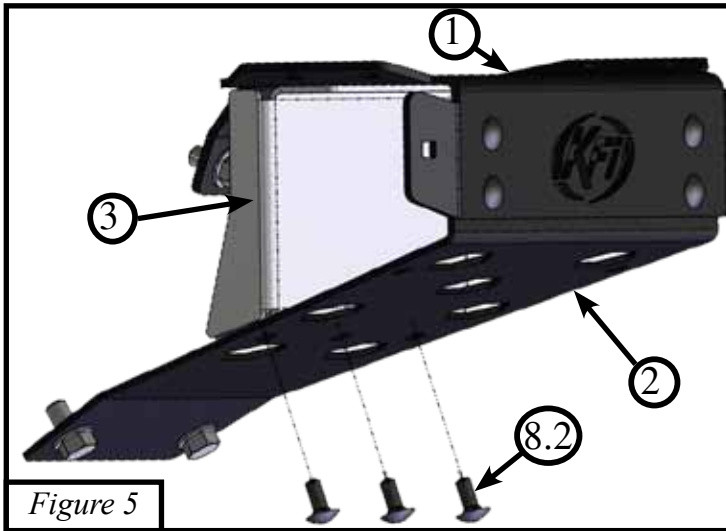

Figure 5
5. Next slip the support (3) in front of the plastic fascia (A) and between the winch mount (1) and skid plate (2) and fasten with three 5/16" bolts and nuts (8.2 & 8.3) through the bottom holes as shown in Figure 5